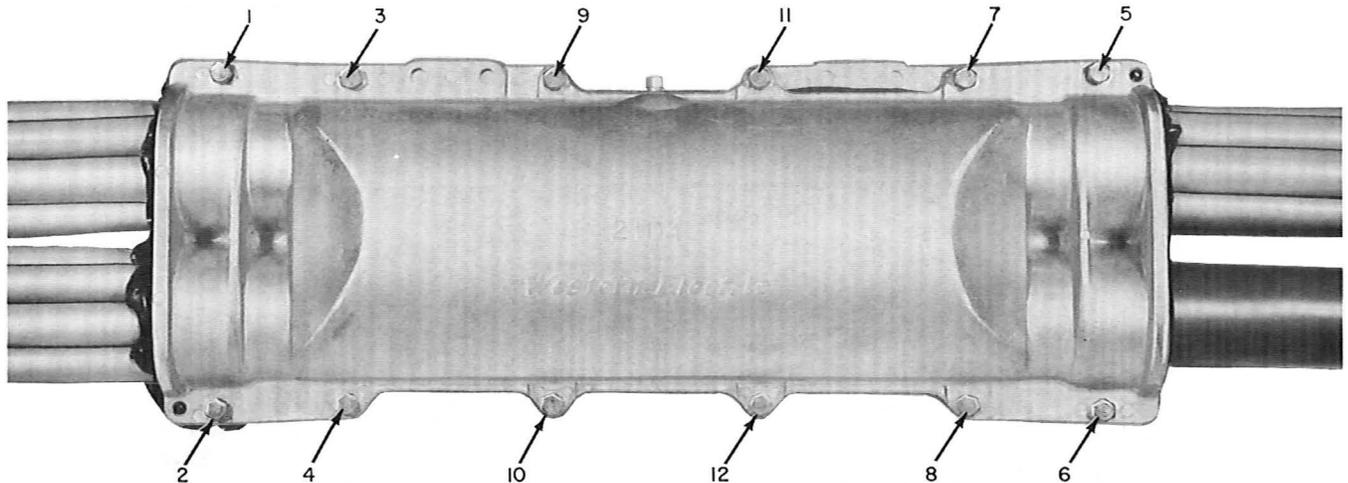

Fig. 21—Completed Splice Case Assembly
10.03 Place the bolts in positions 1, 2, 3, 4, 5, 6, 7, and 8 (Fig. 21).